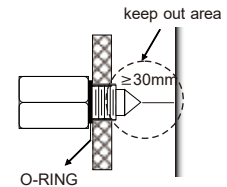

Fig.5
- Tip of the optical sensor must be free at least 30mm from any reflective surfaces or other interferences. Like the tank wall (Fig.5.)